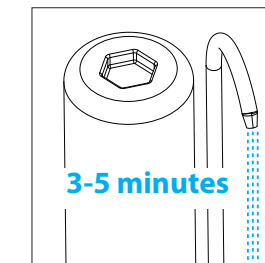

Figure 1.2
- 4 Put the water system in its proper position. Switch the lever to the level position and run water to the system slightly. Flush it for 3-5 minutes during the first use. [Figure 1.2]